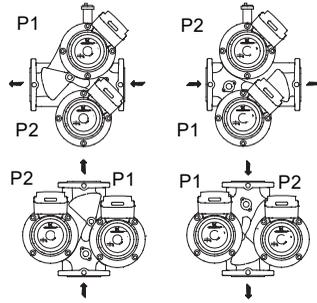

Fig. 5 Flow directions, twin-head pumps
Fit twin-head pumps mounted in horizontal pipes with an automatic air vent in the upper part of the pump housing. See fig. 5.
- Figure 5: Standby operation with pump 2 as duty pump and pump 1 as standby pump.